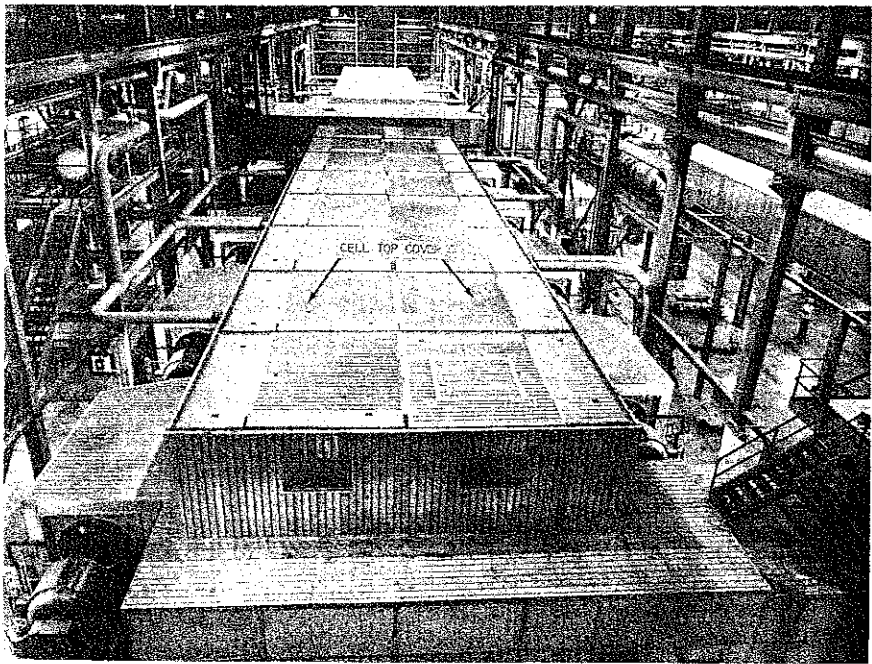

FIG. 2 TYPICAL CELL
- c. Remove cell top covers over work area, using a 4-way spreader and an overhead crane. (Fig. 2)